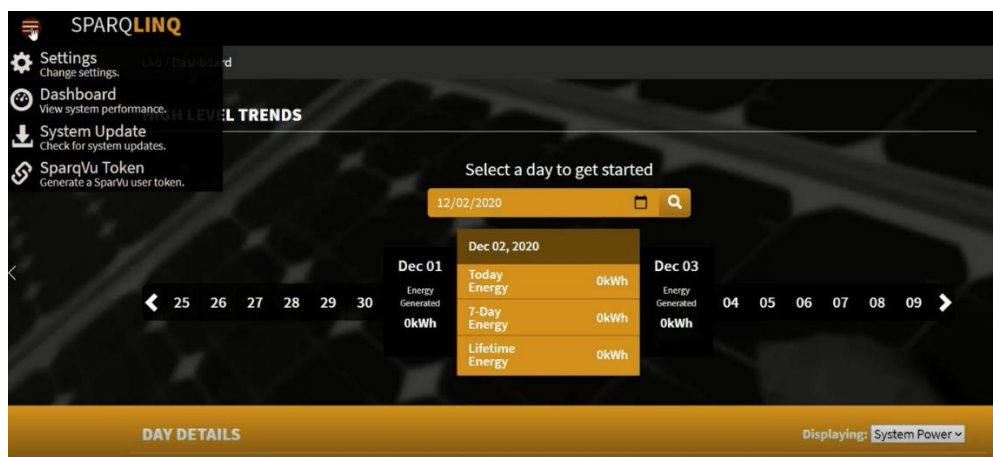

Figure 14: Network configuration via SparqLinq dashboard.
- 1- Click on the menu icon (three horizontal bars) in the top left corner of the dashboard page and then select the Settings option as shown in Figure 14.